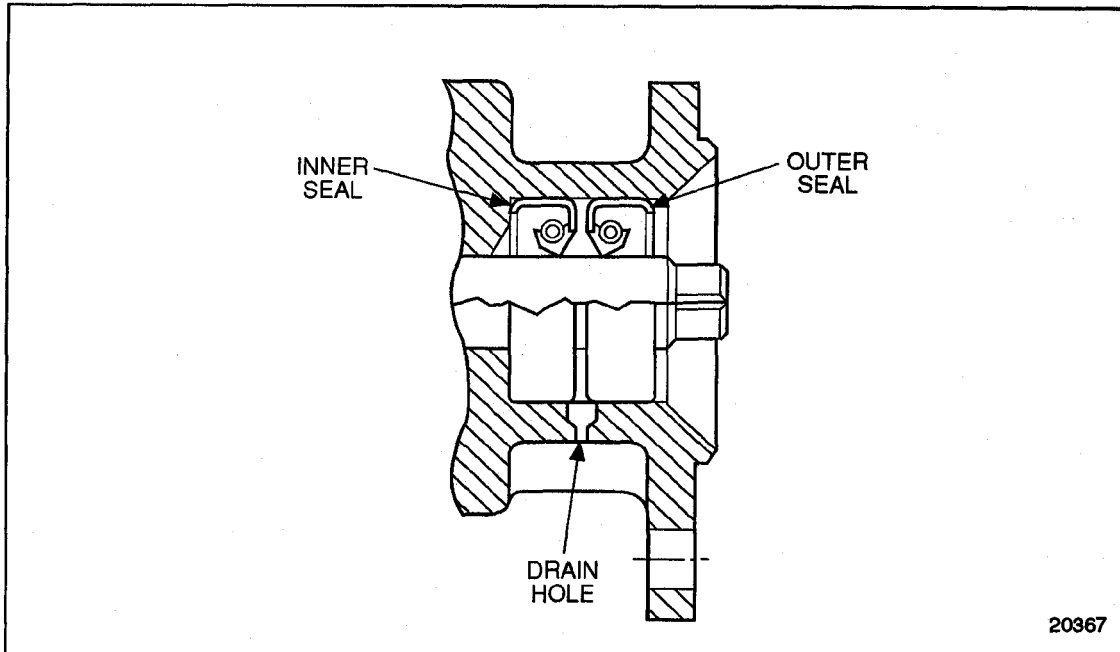

Figure 2-45 Fuel Pump Oil Seal Arrangement
Two oil seals are pressed into the bore in the flanged side of the pump body to retain the fuel oil in the pump and the lubricating oil in the fuel pump drive and gear case. The oil seal vent (4) (see Figure 2-44) serves as a vent passageway in the body, between the inner oil seal and the suction side of the pump, which prevents building up any fuel oil pressure around the shaft ahead of the inner seal. The oil seals are installed with the lips of the seals facing each other. See Figure 2-45.